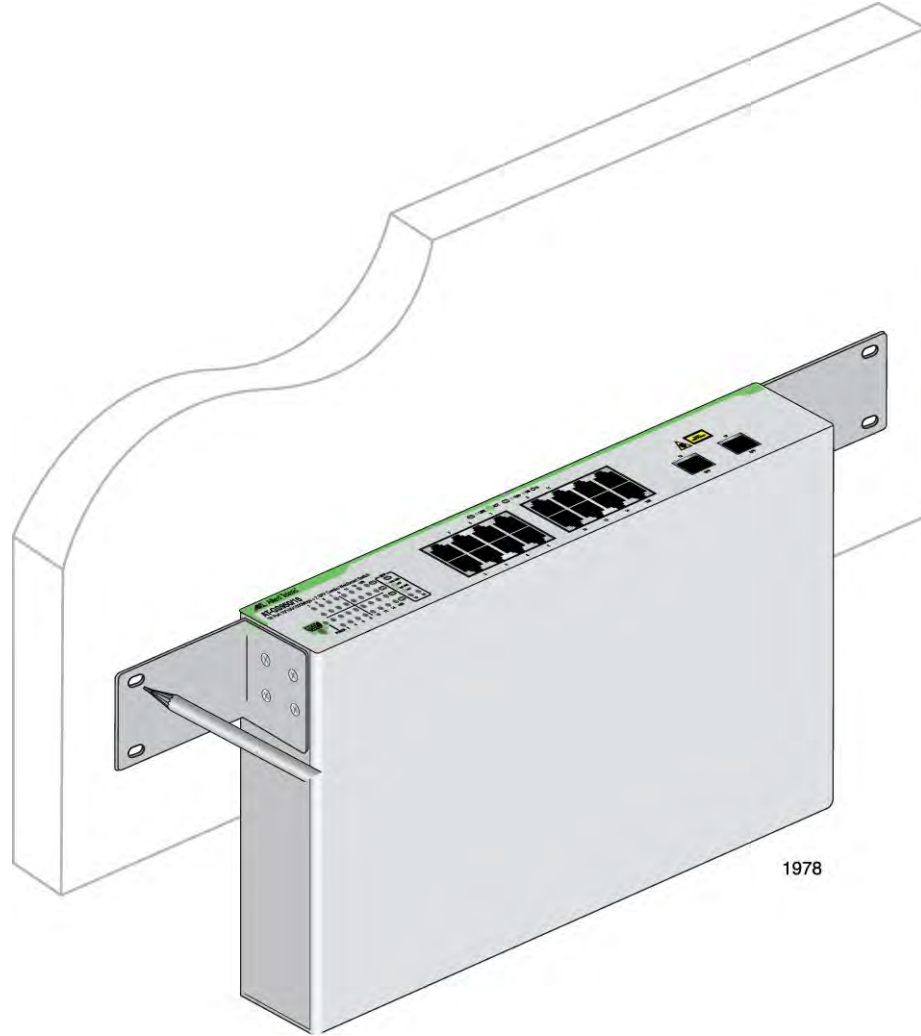

Figure 30. Marking the Screw Hole Locations
4. Have another person hold the switch at the wall location where the switch is to be installed, while you use a pencil or pen to mark the wall with the locations of the four holes in the brackets. The switch should be oriented such that its front faceplate is facing up and is level to the floor. See Figure 30.